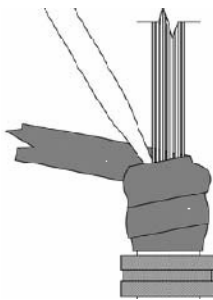

Figure 2. Self Leveling Green; Sealant Application
- d. Stop wrapping the StretchSeal and hold in place. Inject Self-Leveling Green into the wire bundle immediately behind the connector rear accessory or through any openings in the rear accessory. Refer to Figure 2.